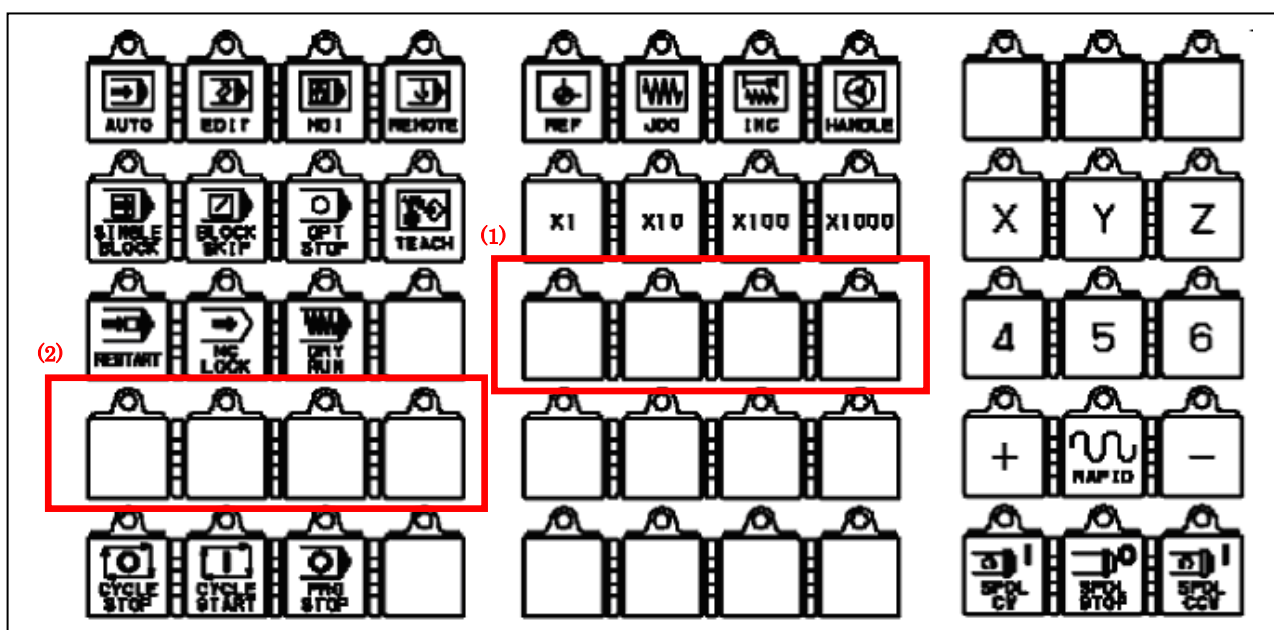

Figure 5.2 Key sheet of the standard machine operator's panel
The keys in the frame (1) in "Figure 5.2 Key sheet of the standard machine operator's panel" are used. These keys are used to change the rapid traverse override at the job operation. The rapid traverse rate can be switched to 4 steps. These keys are the common keys in the ladder templates of lathe (T) system and machining center (M) system.
The keys in the frame (2) in "Figure 5.2 Key sheet of the standard machine operator's panel" are used. These keys are different between the ladder templates of lathe (T) system and machining center (M) system.